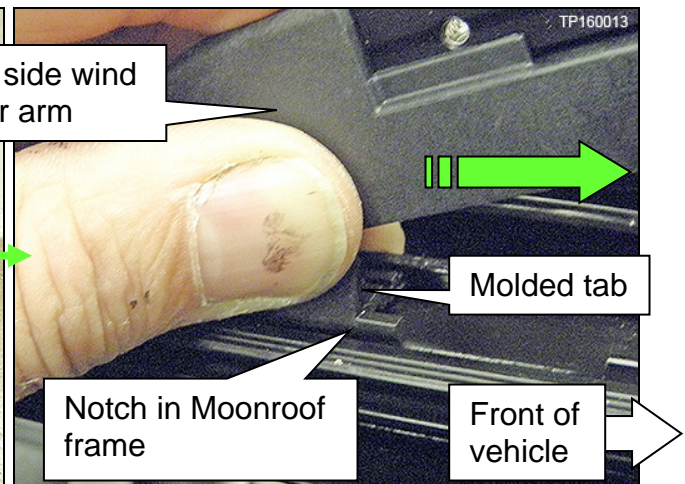

Figure 18
- a. Depress the molded tab on the pivot clip to lift it out of the notch in the Moonroof frame (Figure 18).